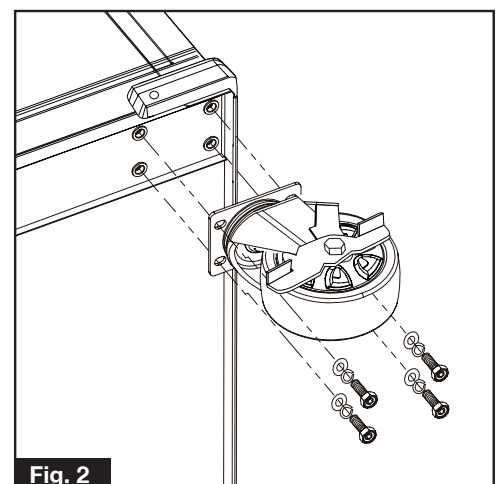

Fig. 2
- Attach the swivel brake wheels to the base of the roller cabinet on the same side as the handle, using M8x15mm bolts, washers and spring washers as shown in Fig. 2. Tighten using a 13mm spanner/socket.